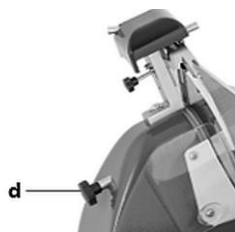

Fig. 12
2. In order to remove the blade guard (3) for cleaning loosen the fixing screw (d) at the back of the appliance (Fig. 12) and push it towards the blade guard (3).
3. Remove the blade guard (3) from the appliance.